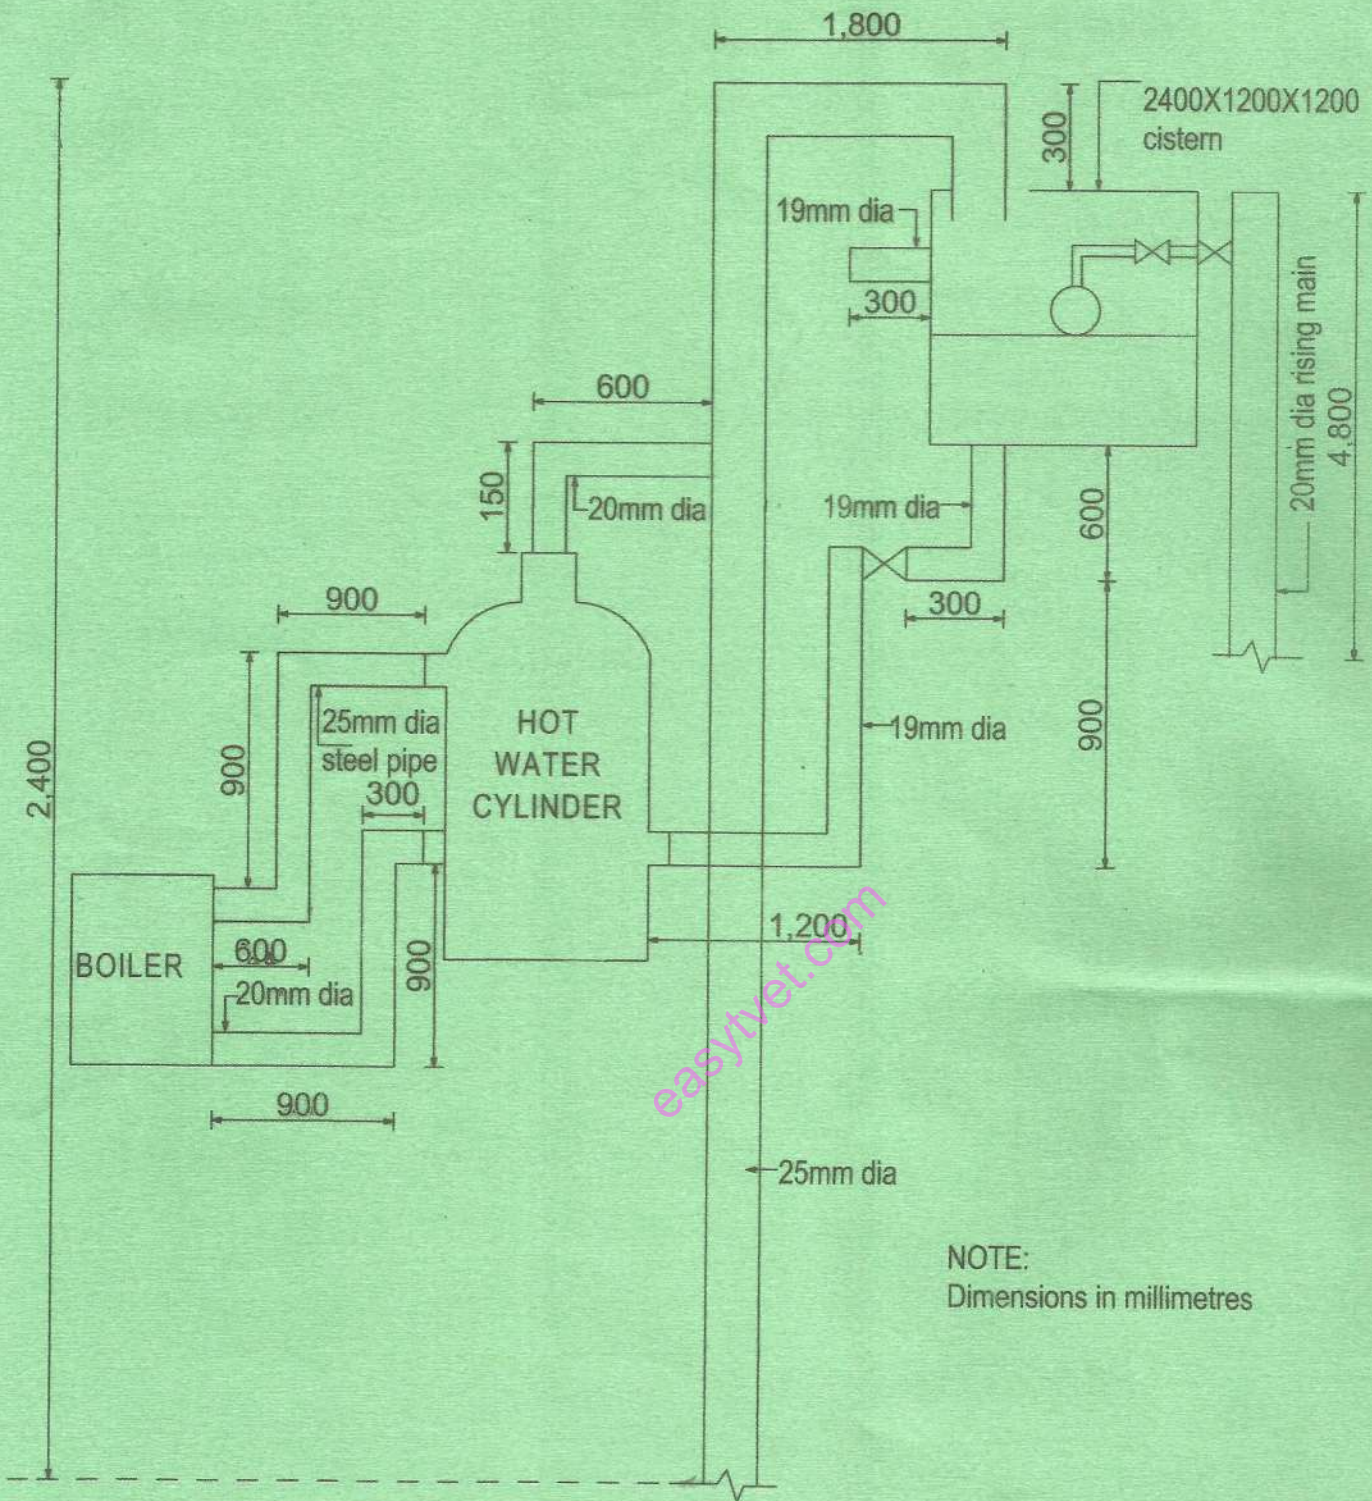

Fig. 5
- (b) **Figure 5** shows a plumbing installation. Determine the cost of the installation using the data given.